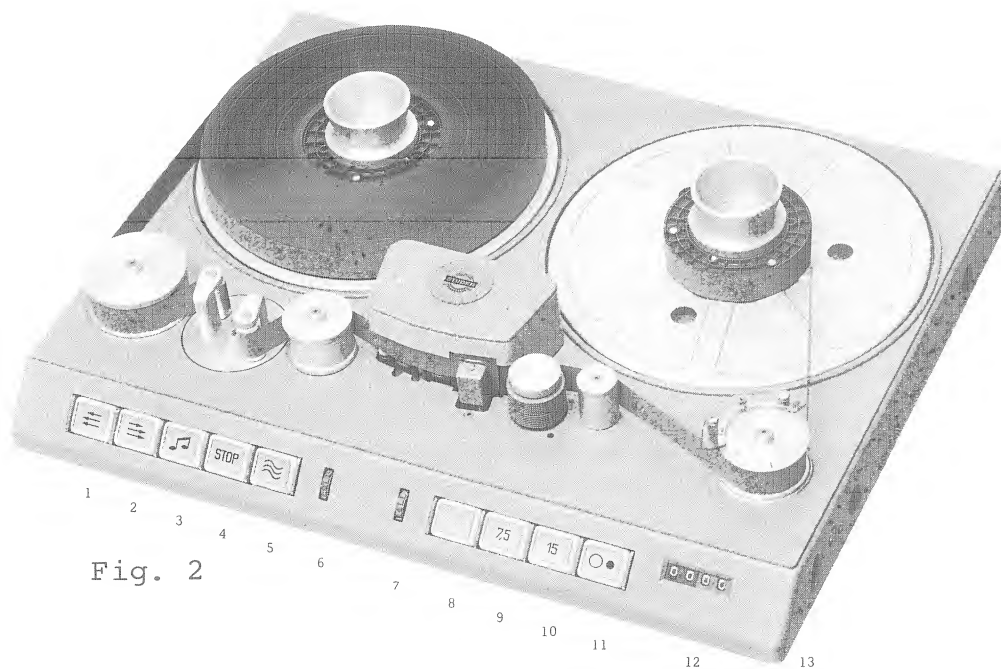
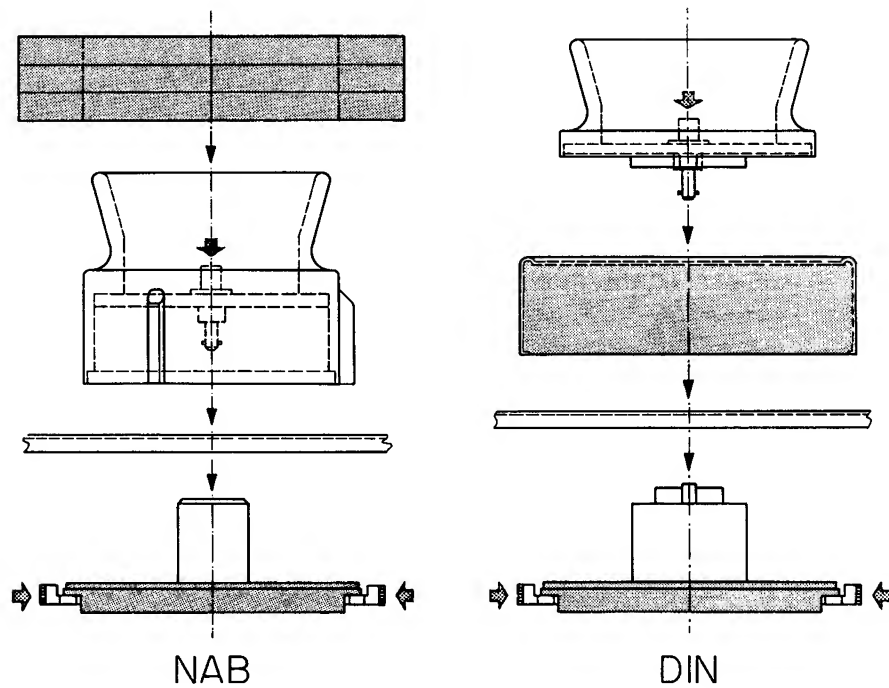
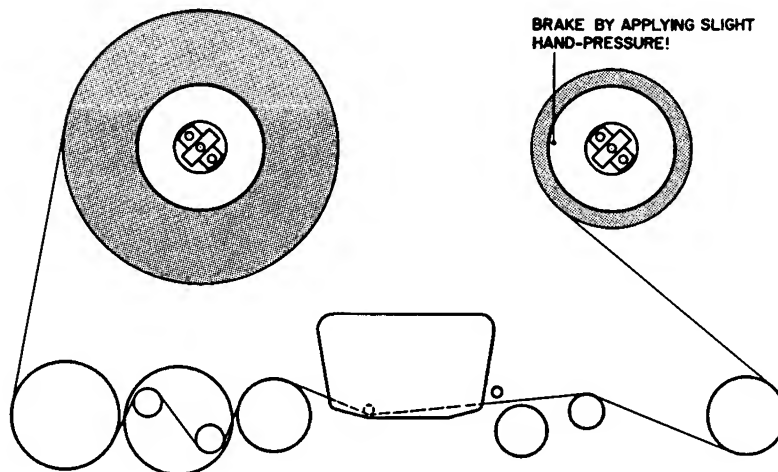

Fig. 2
Fig. 3
Fig. 4
The function of the individual push-buttons can be seen from figure 2. It should be noted that the speed selector buttons act as mains switch to the recorder. The mains switch, pos. 11, is generally only used for switching the machine off after duty. Button 8 is blank and has no function.
The tape path is clearly shown in figure 2. The tape adaptors should correspond to the type of tape in use. Figure 4 shows the locking bars which should be depressed in order to change the tape adaptors. Care should be taken that the adaptors are properly locked in. The same type of spool or core should be used on both sides, the minimum tape spooling diameter being 100 mm (4 inches). The tape should be wound, emulsion inside. If tape with emulsion wound outside (B-winding) is used, the tape should be re-spooled. For this purpose the tape is placed on the right hand spool according to figure 3 and wound onto the left hand spool by depressing the re-wind button (arrow to the left). During this operation, the right hand spool should be braked by hand !
A magnetic screen may be moved in front of the replay head by means of the knurled wheel on the right (Pos. 7 in fig. 2). This is to be recommended in rooms with strong stray magnetic fields as it will improve the signal-to-noise ratio. This applies particularly in rooms with 3-phase fluorescent lighting.
The push-buttons for "fast-forward" and "fast-rewind" (Pos. 1 & 2 in fig. 2) have two operating positions each. If they are depressed only halfway, they do not lock and the corresponding lights do not light up. Any desired point on the tape can be located easily by alternately depressing these two buttons halfway. The hand may be rested on the deck for this purpose. The required point may be located by means of the timing indicator. If a certain place has to be found by ear, the tape must be brought into contact with the replay head by means of the knurled wheel 6 (fig. 2) . If one of the keys is momentarily fully depressed the tape is spooled with full speed and at the same time, lifted off the heads. It is possible to go from " fast - forward " directly into " fast-rewind " but the fast wind action can only be stopped by pressing the " stop " key. In case of tape breakage or at the end of tape, the machine is switched off automatically by means of the tape tension balance.
The tape may be monitored during fast wind by operating the knurled wheel on the left (pos. 6 fig. 2). See also under C 5 "Tape lifting mechanism".
During fast wind, the tape is lifted off the heads to avoid head wear by means of the tape lifting mechanism. See C 5 "Tape Lifting Mechanism". The tape may, however, be monitored during fast wind for short periods, by operating the knurled wheel on the left. (Pos. 6 fig. 2)